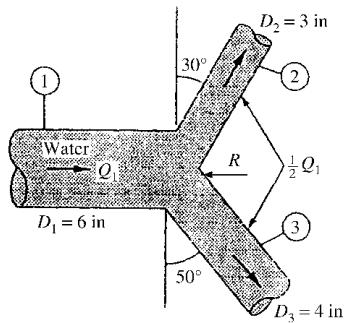

Fig. P3.173
**3.173** The horizontal wye fitting in Fig. P3.173 splits the 20°C water flow rate equally, if  $Q_1 = 5 \text{ ft}^3/\text{s}$  and  $p_1 = 25 \text{ lbf/in}^2$  (gage) and losses are neglected, estimate (a)  $p_2$ , (b)  $p_3$ , and (c) the vector force required to keep the wye in place.